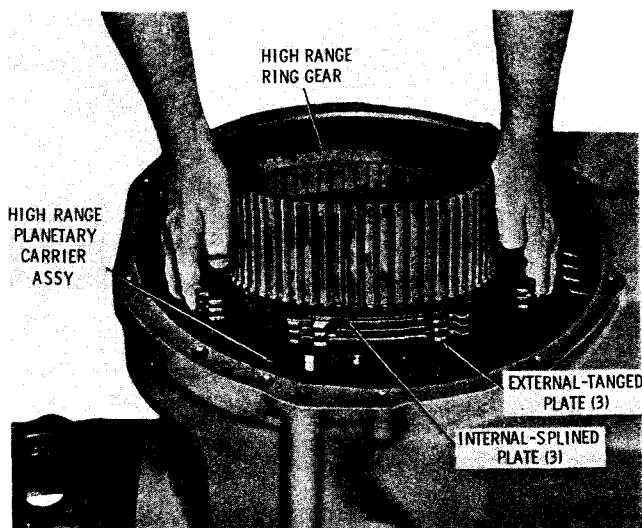

Fig. 7-16. Installing high-range ring gear and assembled clutch plates
(11) Invert the assembled ring gear and six plates and install them as a unit onto the high-range planetary carrier and piston in the transmission housing (fig. 7-16).